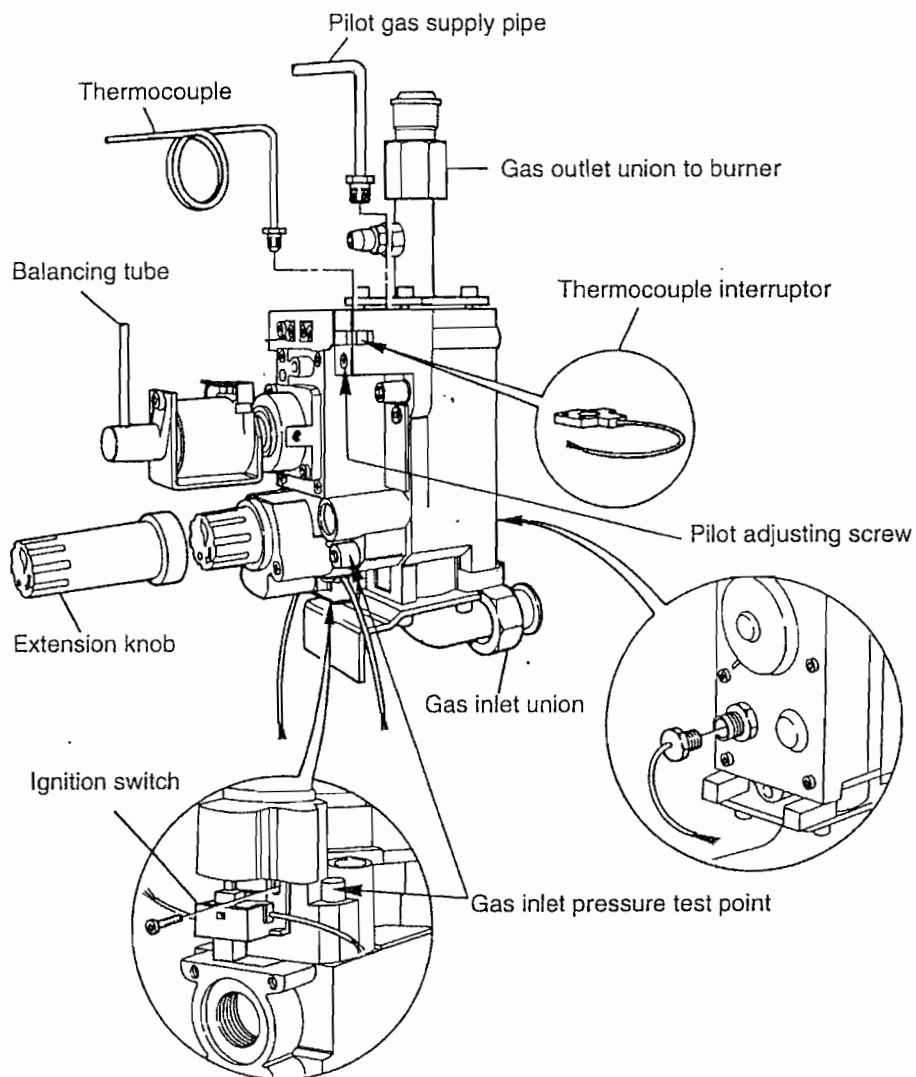

Fig. 31
- b) Disconnect the thermocouple from the Honeywell valve (use a 10 mm spanner) (fig. 31).
- c) Unscrew the pilot supply pipe compression nut from the Honeywell valve (fig. 31).
## 6.0 HONEYWELL GAS VALVE (fig. 31)